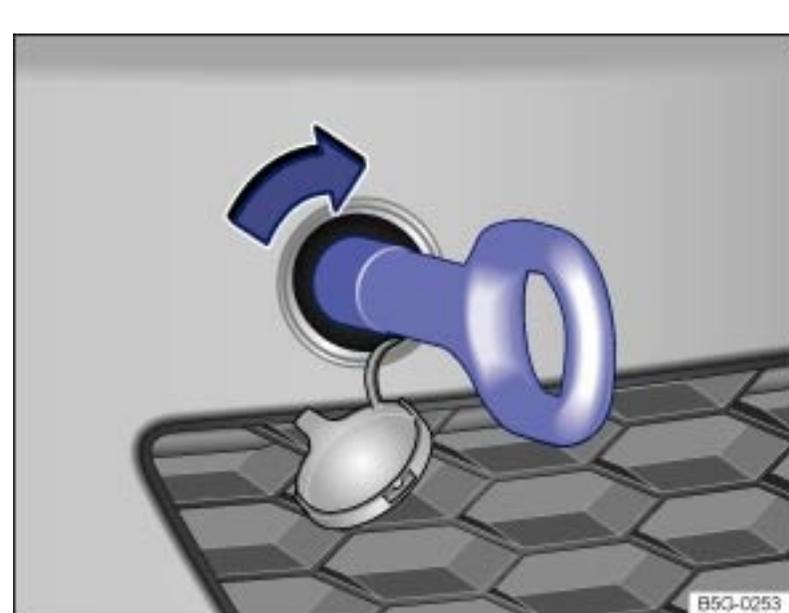

Fig. 227 In the right front bumper: Installing the towing eye.
There is a threaded hole for the towing eye in the right front bumper → Fig. 227.
- ▶ Screw the towing eye clockwise into the threaded hole as far as it will go (arrow) → Fig. 227 → . Use the lug wrench to turn and tighten the towing eye.